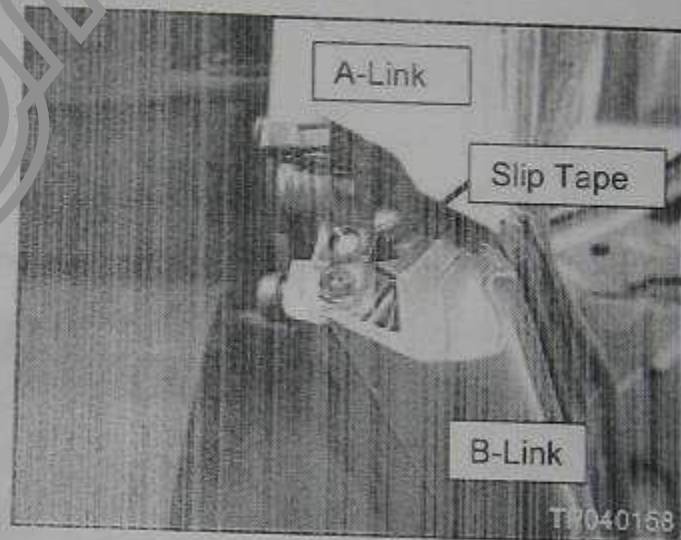

Figure 8
- Make sure the "slip tape" between the A- and B-links is applied correctly as shown in Figure 8.